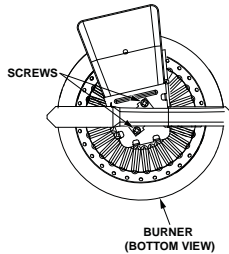

FIGURE 28.
1. Take off the burner by removing the two (2) screws located underneath the burner.
2. Check the burner to see if it is dirty or clogged. The burner may be cleaned with soap and hot water (Figure 28).